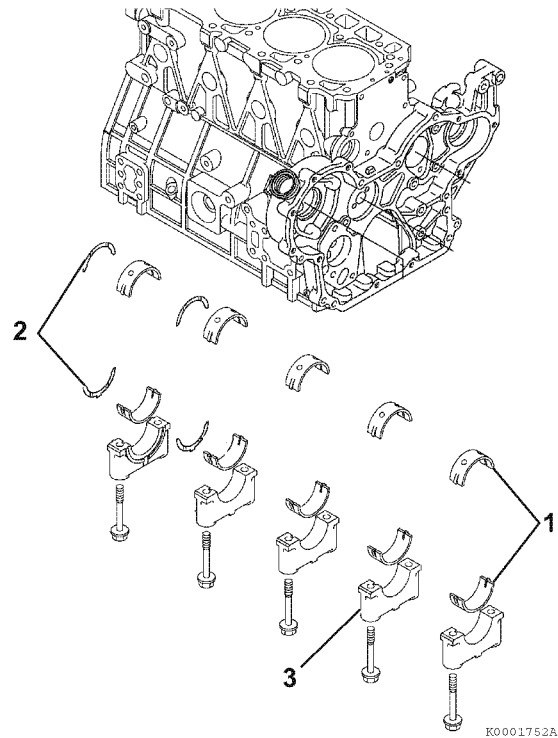

Figure 6-107
4. Remove the main bearing caps (3, **Figure 6-107**). Be sure to note the markings on the main bearing caps, or mark them yourself, so they can be reinstalled in the same order as they were removed. Do not remove the bearing inserts at this time.
7. Remove the bearing inserts (1, **Figure 6-107**) and thrust bearings (2, **Figure 6-107**).